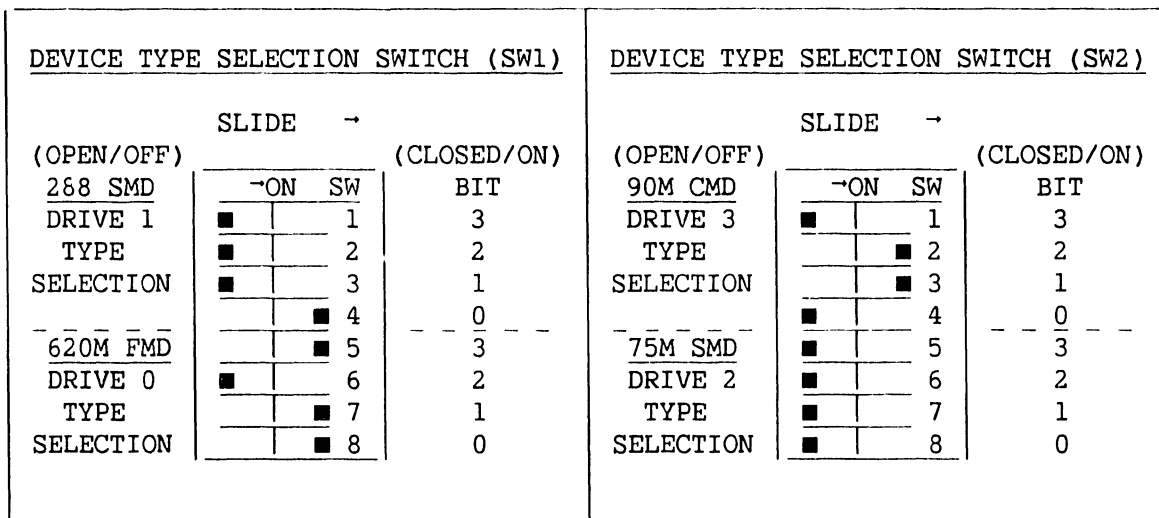

Figure 5-20. Device Type Switches for One to Four Disk Drives
4. The two 8-bank DIP switches, SW1 and SW2, define the disk drive types connected to the External Disk Drive DA ports 0-3. Set the switch(es) for the type of drive(s) connected to the system, referring to figure 5-20, and table 5-8. On the 210-8312 (1-port) and 210-8313 (2-port) adapters, SW2 may not be installed. The switch location may be hard-wired to indicate that ports number 2 and 3 cannot be used.
The asterisk (*) in table 5-8 denotes the four external disk drive types used as examples in figure 5-20 below.